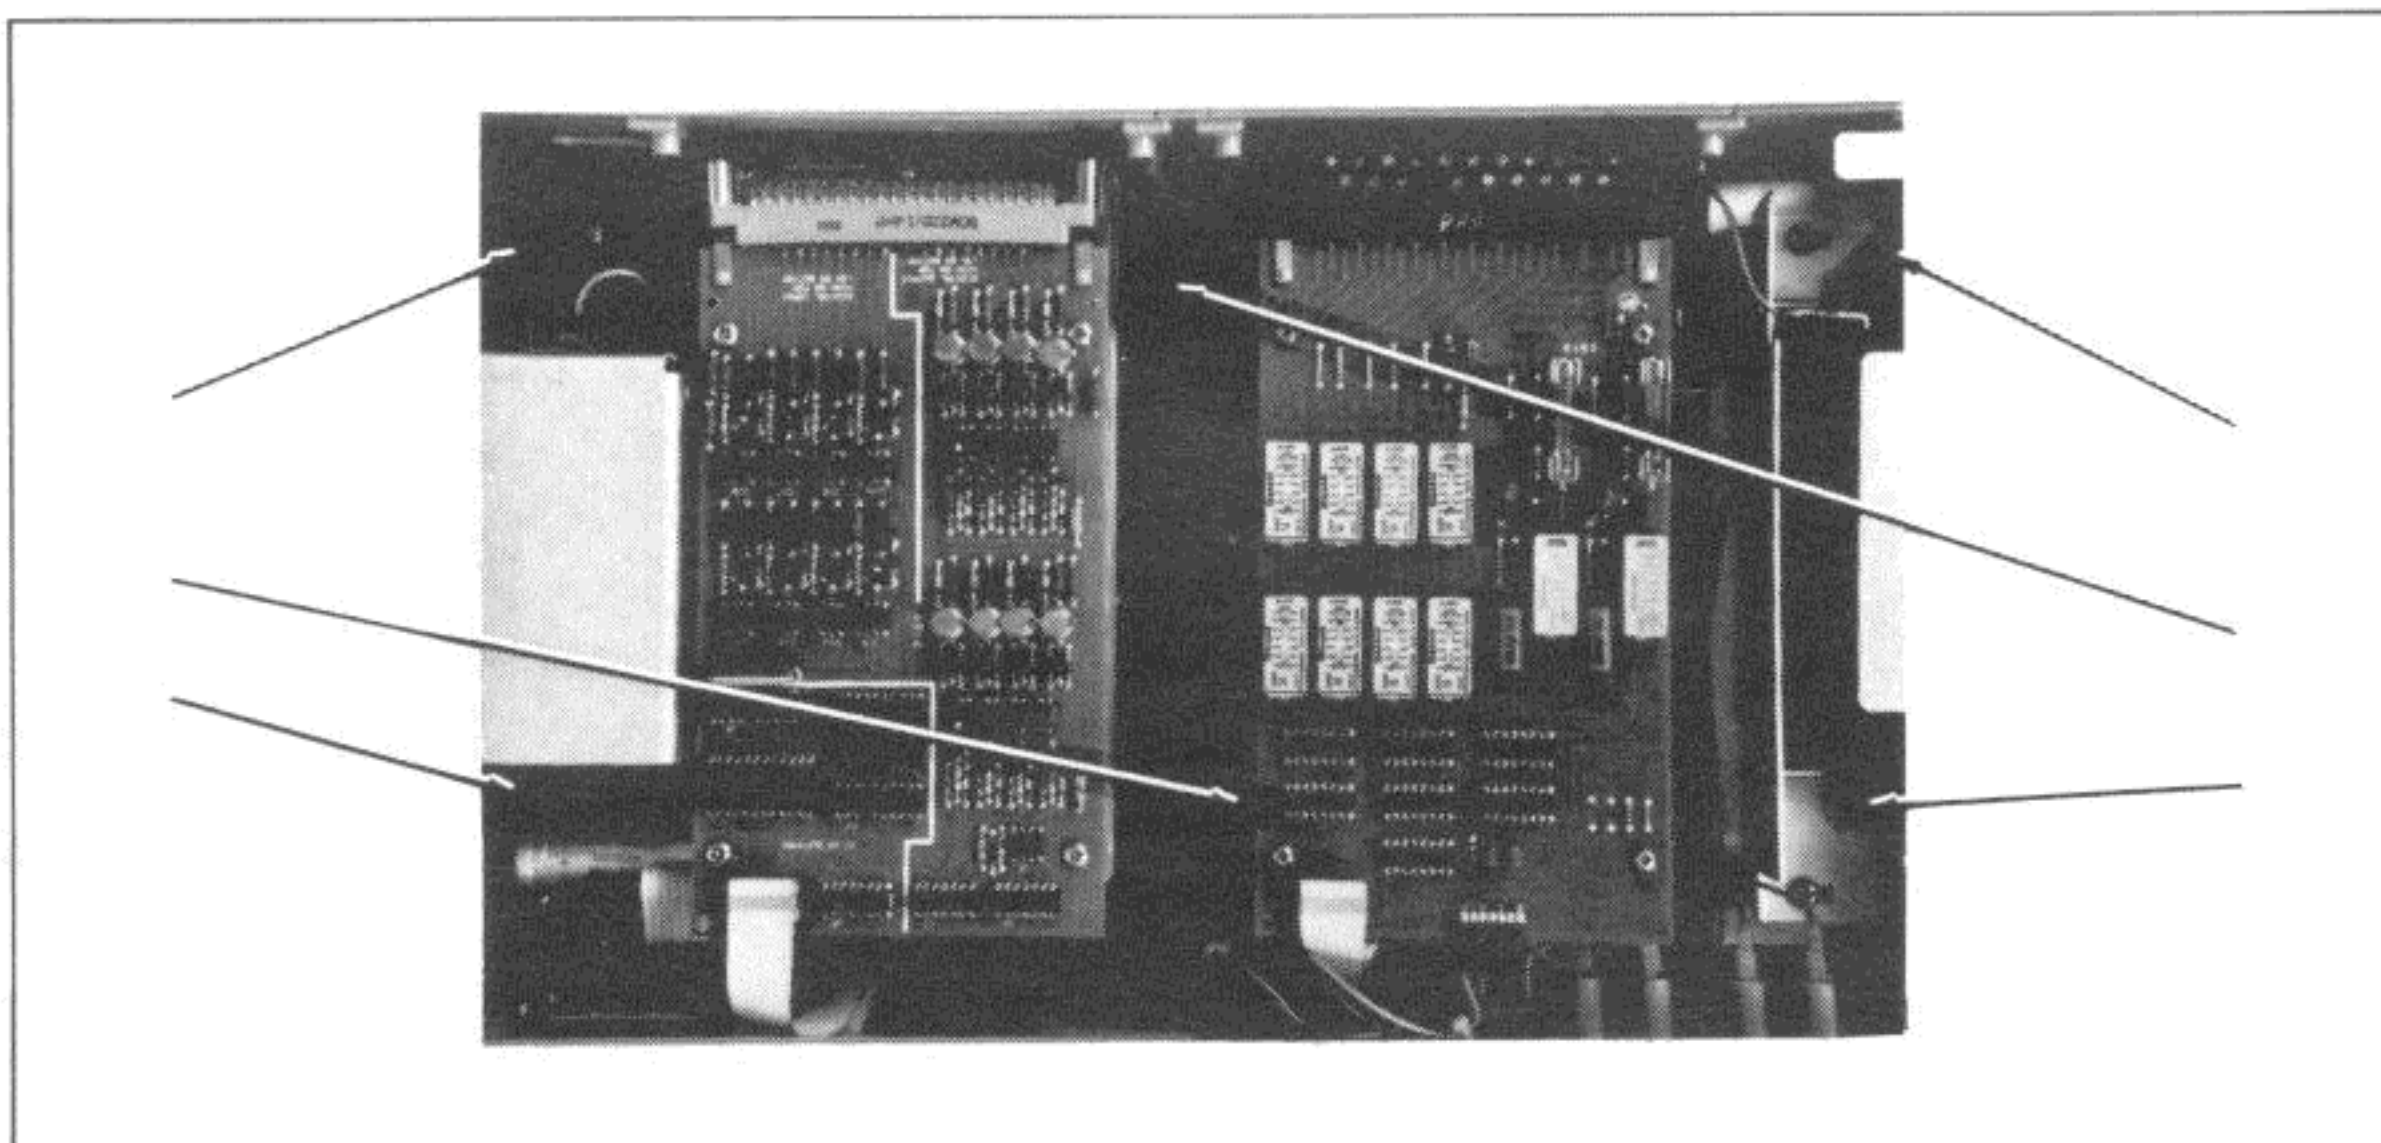

Figure 2-2-9. Plastic Spacer Placement
a. Before replacing the top cover, first make sure the main battery fuse has been replaced or the red wire to the battery has been reconnected. Then locate the six plastic spacers and place them on the cabinet screws as shown in Figure 2-2-9.